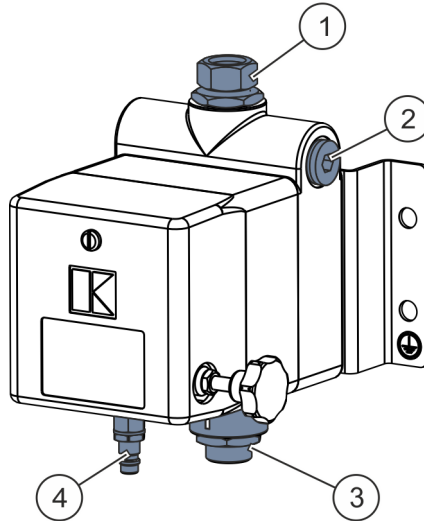

Fig. 5: Connection
1. ➔ Connect the intake hose to the fluid intake connection (Fig. 5/3).
2. ➔ Connect the fluid pressure hose to the fluid pressure connection (Fig. 5/2).
The fluid pressure connection can be made on the left or right. Screw the sealing screw (Fig. 5/2) into the unused connection and tighten it.
3. ➔ If necessary, connect the surge tank to the connection (Fig. 5/1).
4. ➔ Connect the compressed-air supply to the compressed-air connection point (Fig. 5/4).